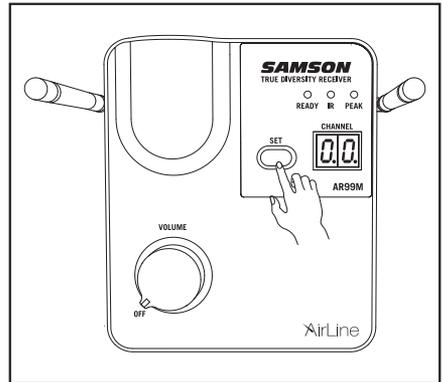

Figure 1
5. Press and hold the SET button on the front of the AR99m receiver to scan for an available channel. Once the optimal channel is selected the receiver will enter IR Set mode (figure 1).